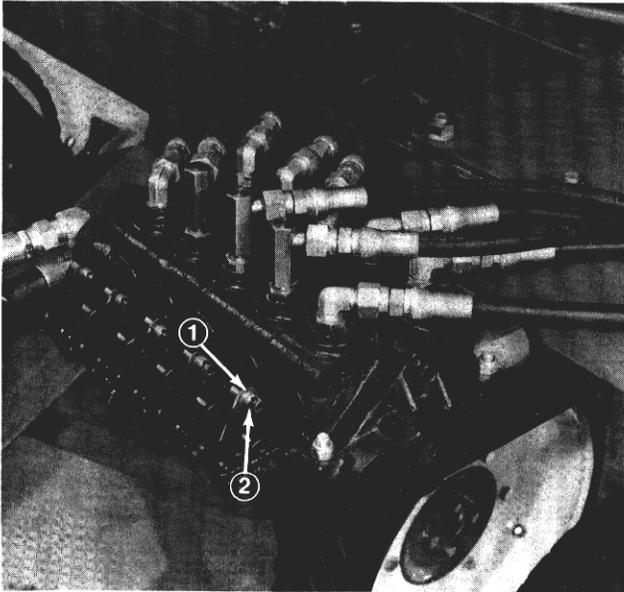
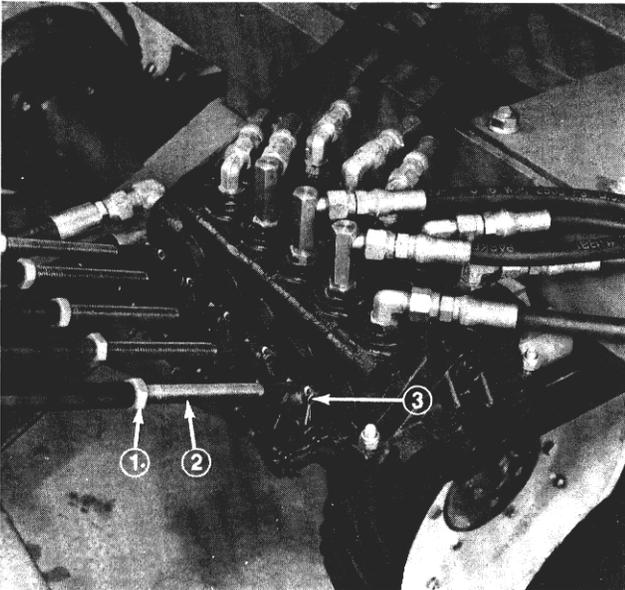
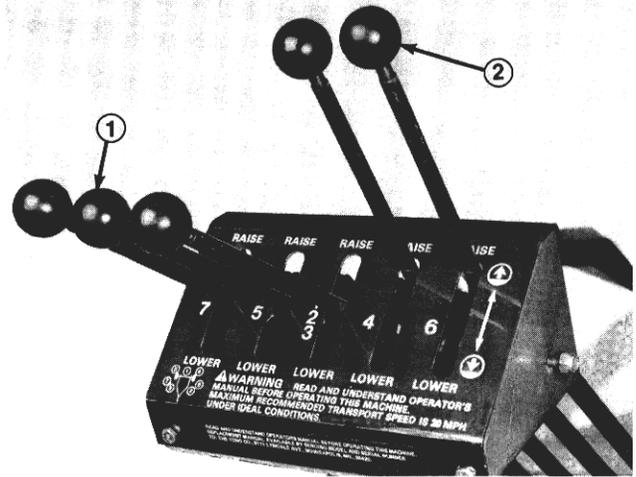

Figure 17
Figure 18
Figure 19
9. Check to make sure valve spool levers (Fig. 17) are in neutral (middle position) by pivoting levers in toward valve, or pulling them out to find mid position.
10. Thread 7/16–14 hex nuts onto lower control rods. Partially thread lower control rods into upper control tubes (Fig. 18). Coat threads with #2 gun grease.
11. Align hole on end of lower control rod (Fig. 18) with mounting pin in control valve lever (Fig. 17). Lever on control tower should be in center of slot (neutral position) if adjusted correctly (Fig. 19). Thread lower rod into or out of upper control tube to adjust. After each lever is adjusted, check to make sure all levers are aligned with each other. Readjust if necessary.
12. Secure control rods to control valve levers with cotter pins (Fig. 18).
14. When adjusted correctly, tighten jam nuts on lower control rods (Fig. 18).